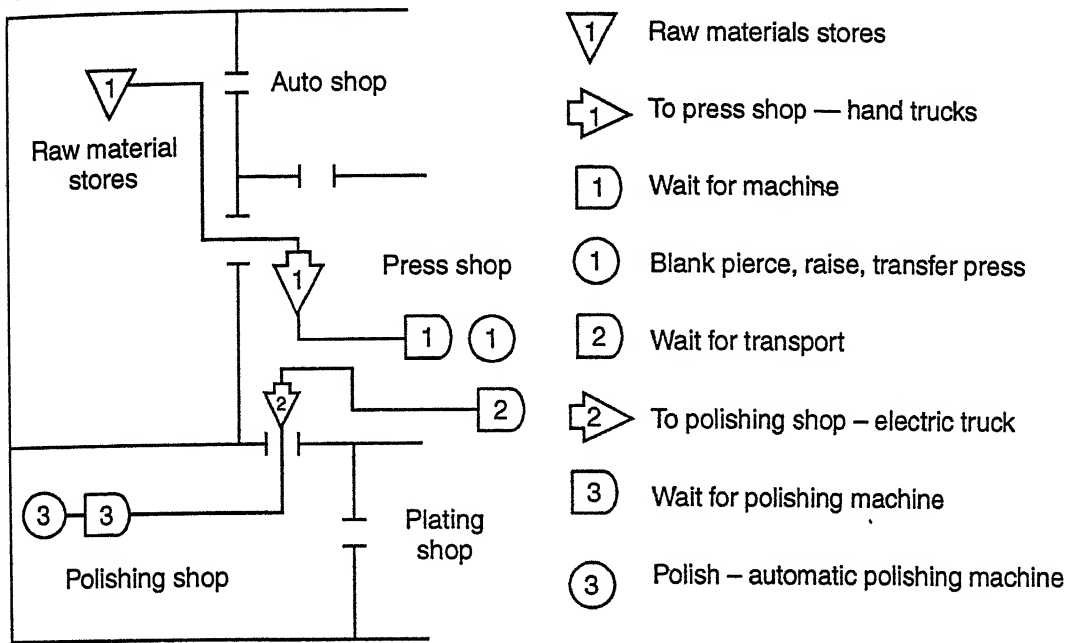

Fig. 21.4. Flow process chart.
To prepare a flow process chart (Refer Fig. 21.4) the engineer must visit the plant to study and record the plant activities step-by-step. When the chart is completed the engineer will have an intimate knowledge of the present process and layout. These charts can be prepared with little difficulty for a plant that is manufacturing standardized products. In case of job lot plants, however, it is usually felt necessary to prepare a number of generalised process charts, which will account for large bulk of output. It necessitates the accumulation of data found on the route cards of past orders. The production orders are studied and classified into categories that require
**Flow diagram :** A flow diagram is an aid to the visualisation of the movement of the materials on an existing floor layout. This type of diagram is prepared on the floor-plan drawing or on an onion sheet superimposed on the floor plan drawing or blue prints. Use of colour lines is made to trace the flow of work through the machine stations and fabrication and assembly operations required for the output of different products. In case of job-lot plants, the flow of typical jobs or general flow of groups of jobs that require more or less similar production operations can be represented by a number of colour lines. A flow diagram analysis indicates where long lines of handling, back tracking, criss crossing, bottlenecks and confusion exist in the present arrangement and where production operations and service activities are located. In short, the flow diagram checks the effectiveness of overall arrangement of plant activities for materials handling and suggests where revisions can be made. Such an analysis enables the engineer to determine which machine stations, assembly areas, store rooms, office space, locker rooms etc. should be relocated to attain a greater economy in handling Fig. 21.4 shows a flow diagram and a flow process chart.